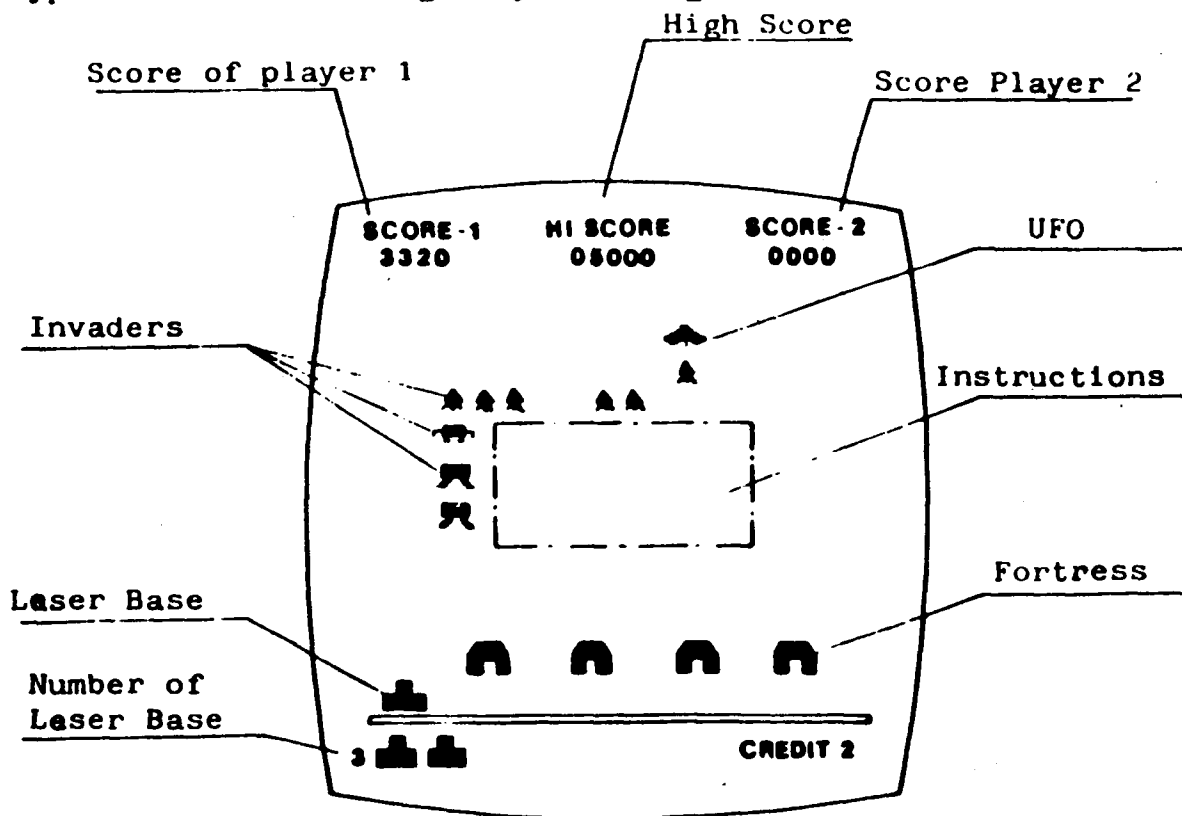

Fig. 8
10. Typical Picture During Play (See Fig. 8)